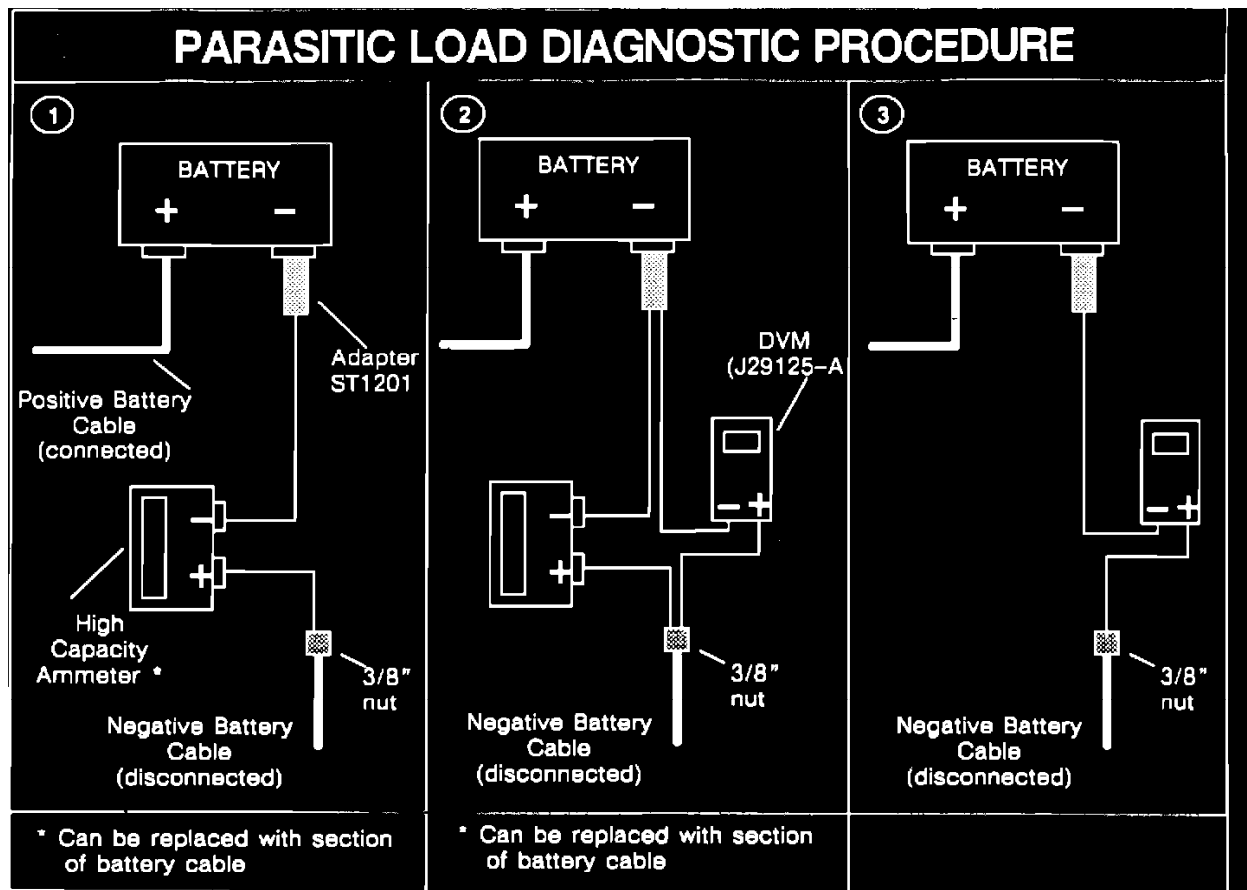

FIGURE 5 - PROPER PARASITIC LOAD DIAGNOSTIC PROCEDURE
A. How to Check the Battery Drain (Refer to Figure 5)